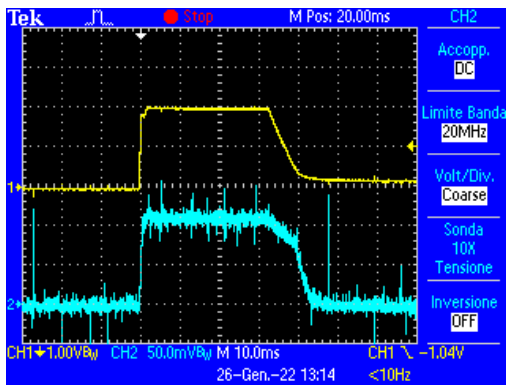

Fig. 2a
- Check that the resulting values are correct respect values in the table below and then check the wave-length by comparing it to the typical wave-lengths shown in fig. 2a (60 kV) and 2b (100 kV).